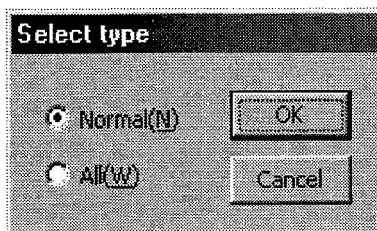

Figure 7.36 "Select type" dialog box
Click "*Download (D)*" in the "Program Manager" menu to display the "Select type" dialog box (see Figure 7.36).